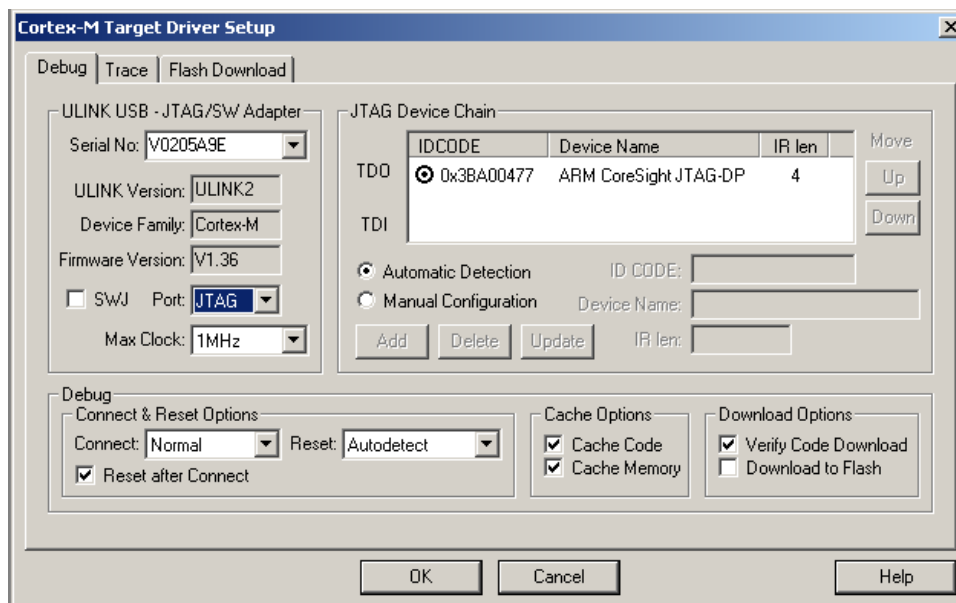

Figure 7 Testing the JTAG communication channel.
- 5) Figure 7 will open up showing the existence of the CoreSight debugging module inside the Cortex-M1.